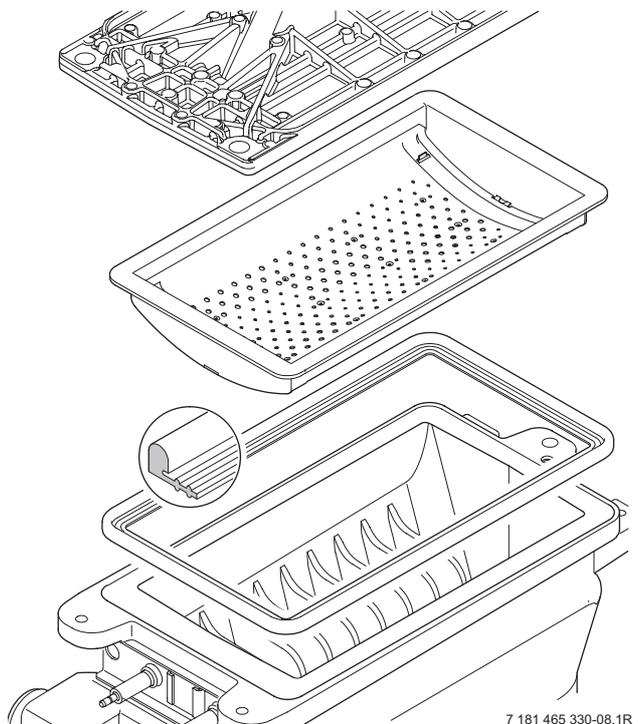

Fig. 55
- ▶ Remove burner and clean components. Do not use a wire brush. Refer to fig. 55.